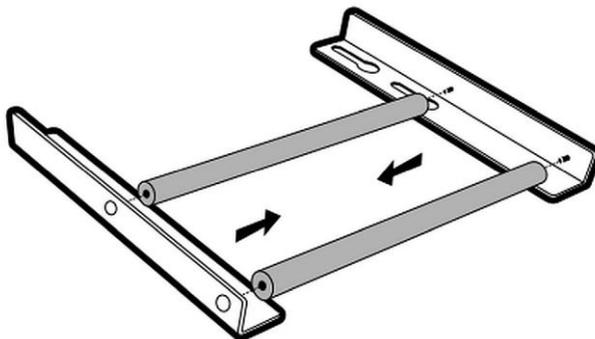

Fig. 2
1. Loosen four screws at the back of the appliance by 3 full turns (Fig. 2).